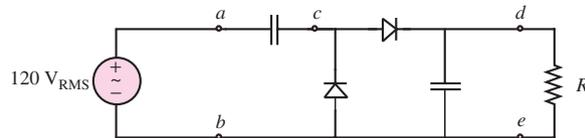

Figure P12.21
12.21 In the DC power supply shown in Figure P12.21, sketch the voltage across  $a$ - $b$ ,  $c$ - $a$ , and  $d$ - $e$ , assuming that  $R$  is so large as to make any ripple not noticeable.